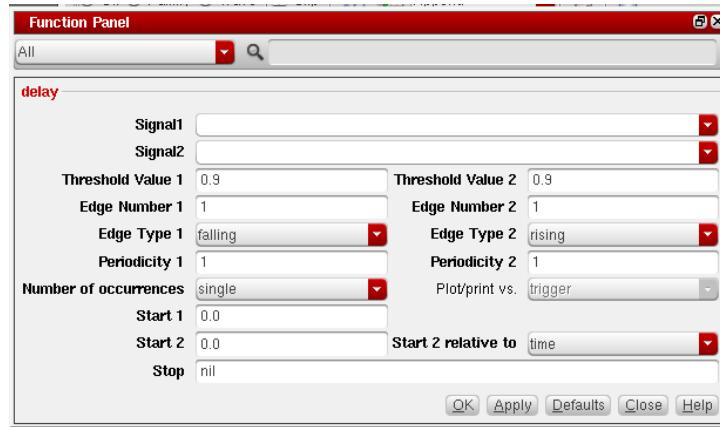

Figure 6.3: Options in Delay function
- (b) Select delay from the Function Panel. You end up having options as shown in Fig.6.3
- (c) Specify the following entries and replicate the other values as shown in Fig.6.3